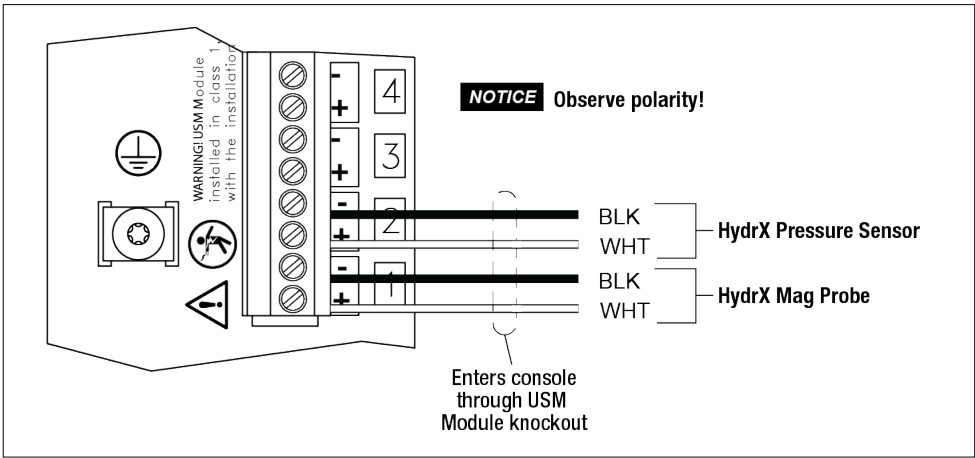

Figure 28. HydrX Mag Probe/Pressure Sensor Connection to USM Module
- 1. Refer to Figure 28 below for TLS-4xx HydrX Mag Probe and Pressure Sensor wiring connections.